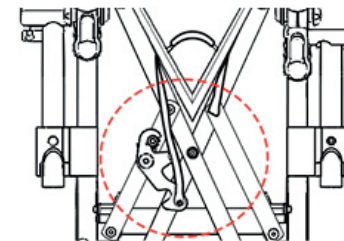

FIGURE 15
f. Once lifted the chair arms can be pushed together to the folded position. (Figure 15)